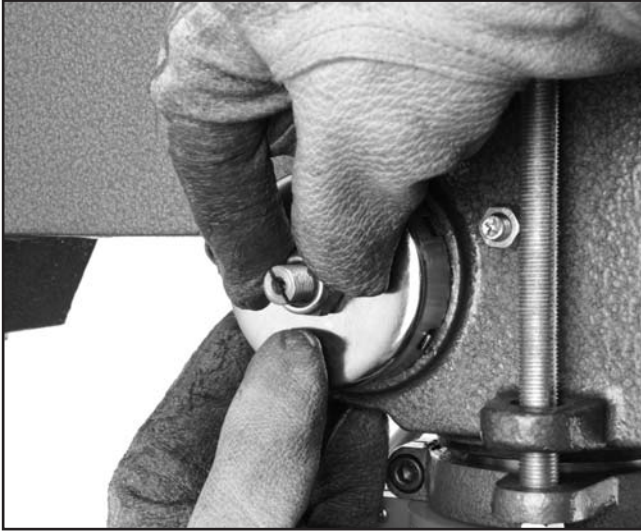

Figure 44. Loosening cover and jam nut.
- While holding the spring lock cover against the side of the head stock so the cover stays splined with the locking lug; loosen the jam nut and cover nut approximately $\frac{1}{4}$ " (see Figure 44).